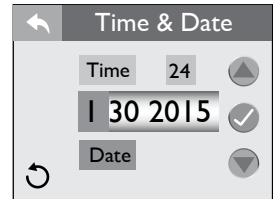

Figure 12.10d
1. Tap **Date** to program the date, Figure 12.10d.